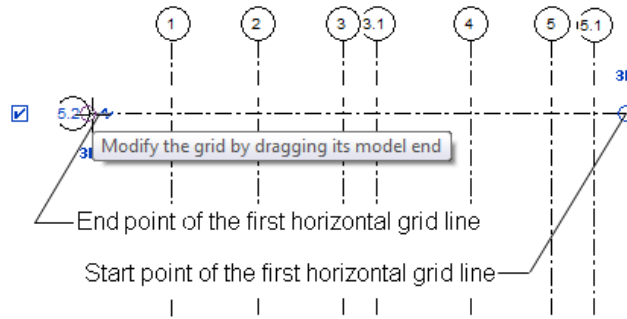

Figure 3-52 The location of the start point and endpoint of the first horizontal grid line
19. Move the cursor horizontally toward the left until it has crossed the vertical grid line marked **1**. Click in the drawing area to create the first horizontal grid line, as shown in Figure 3-52.